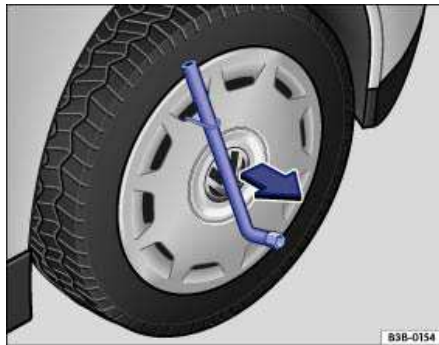

Fig. 163 Pulling the wheel cover off.
- Slide the lug wrench through the clip ⇒ fig. 163 and pull the wheel cover off in the direction of the arrow.